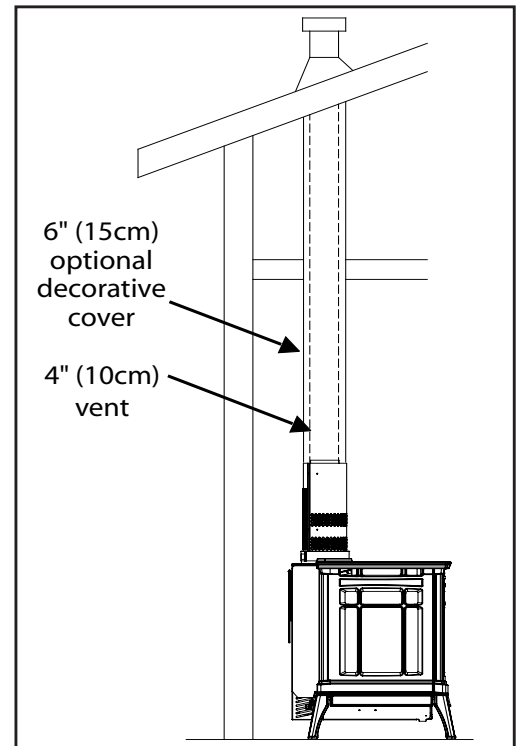

Figure 38: B-Vent Setup
**Note:** Please refer to the chimney manufacturer's installation instructions prior to commencing the installation. This unit may be vented to an existing masonry chimney, or where no masonry chimney is available, an approved "B-vent" chimney, or any other approved constructed chimney/vent system (see Figure 38). In either case, the fireplace must be connected to the chimney/vent using a 4" (10 cm) single wall flexible venting.